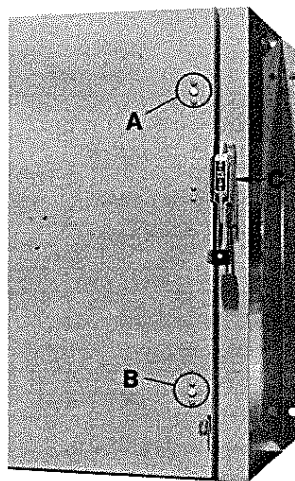

Figure 1
2. Disengage mechanical latches at the top and bottom of the door by turning slotted screws (A & B, Fig. 1) counterclockwise approximately 1½ turns with a screwdriver.
3. Disengage mechanical latch on the flange operating handle mechanism by turning the spring loaded slotted screw (C, Fig. 1) on side of mechanism clockwise (counterclockwise on NEMA Size 7 & 8) with a screwdriver while simultaneously opening the door.